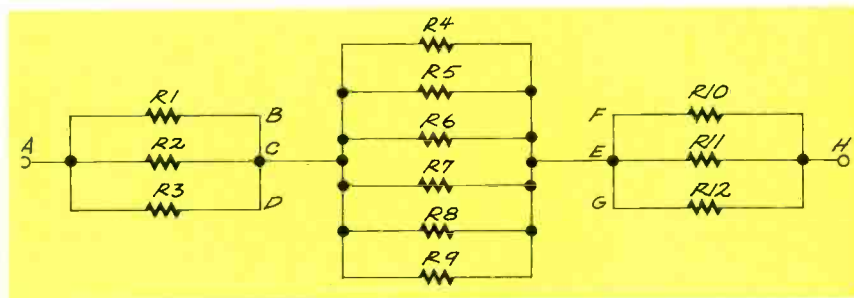
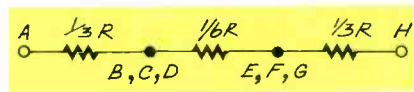

FIG. 2
FIG. 3
"Share's Shorting Law" states that all points of a circuit having the same voltage can be shorted together because no current can flow; therefore, no changes in the circuit (current or voltage) will occur. That allows a great simplification of the circuit to the one shown in Fig. 2.
Now it is a simple circuit to analyze for resistances, currents, and voltages. To find total resistance (R_T) from point A to point H, Fig. 2 reduces further to a series circuit, shown in Fig. 3.
Thus, using the author's last example of 100-ohm resistors and 25 volts (E_S) applied between A and H, $R_T = \frac{1}{3}R + \frac{1}{6}R = \frac{1}{2}R$, so $R_T = \frac{1}{2}R$ or 0.833 R. If all the resistors (R) are 100 ohms, then from the preceding equation $R_T = 83.3$ ohms and $I_T = E_S/R_T$, so $I_T = 300$ milliamperes. Other voltages and currents can be solved similarly with the simple circuits of Figs. 2 or 3. DAVID SHARE